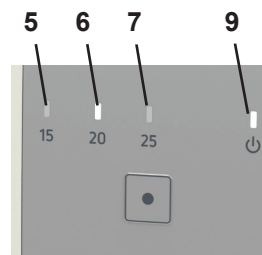

Fig. 4
- ♦ The green operating indicator (9, Fig. 4) flashes quickly.
- ♦ The yellow indicator for the defined threshold value lights up (5, 6, 7, Fig. 4).
- ♦ The green operating indicator (9, Fig. 4) lights up.
As long as the flow rate is higher than the defined threshold value, the corresponding indicator remains lit up (5, 6, 7, Fig. 4)